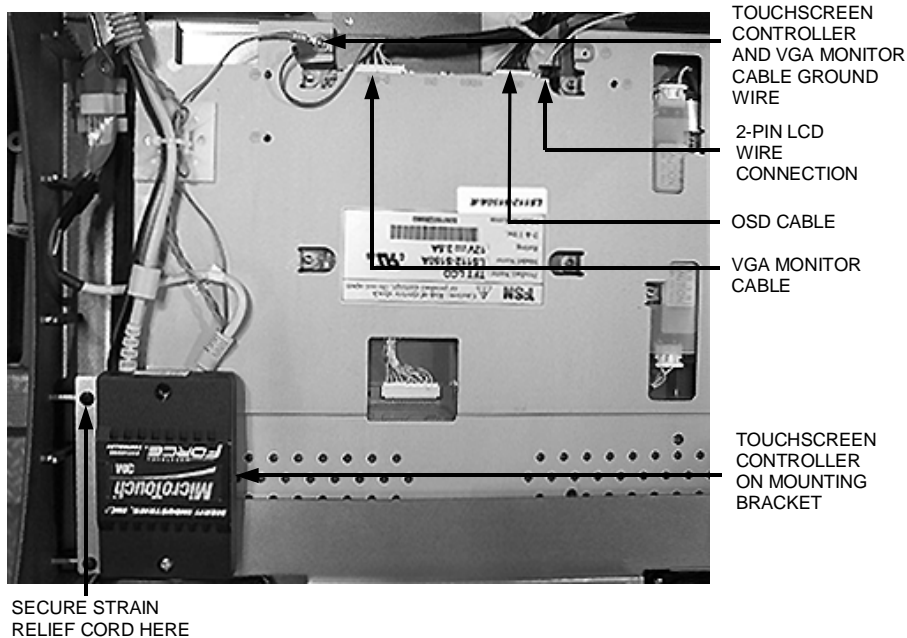

FIGURE 3 – FORESEESONS MONITOR IN FORCE COUNTERTOP GAME
8. Remove the touchscreen controller ground wire. It will be located below the hard drive if the controller is secured to the hard drive mounting plate. If the controller is mounted to the LCD mounting bracket, it will be located on the reverse side of the monitor. Refer to Figures 3 and 4.
19. **FORCE games only:** Use the supplied screw and kepnut to mount the controller to the LCD mounting bracket which contains the lock assembly. Use the screw hole on the bracket that is closer to the edge of the bezel for mounting. See Figure 3.
22. Fasten the strain relief cord under the LCD mounting bracket screw designated in Figure 3.
4. Carefully remove the tie wrap(s) around the VGA monitor cable, then disconnect the cable from the monitor and remove the ground wire (a second ground wire may also be secured in the same location). See Figure 3.
5. Disconnect the OSD cable from the monitor and remove it from the twist clamps on the hinges. Then remove the OSD board from the Velcro attached to either the hinge or the back of the monitor and set it aside. See Figures 3 and 4.
6. Disconnect the 2-pin LCD connector from the monitor. See Figure 3.
NOTE: The ground wire will be located below the hard drive if the touchscreen controller is secured to the hard drive mounting plate. If the touchscreen controller is mounted to the LCD mounting bracket, the ground wire will be located on the reverse side of the monitor. See Figures 3 and 4.
18. Use the supplied screw and kepnut to mount the controller to the LCD mounting bracket which contains the lock assembly. Use the screw hole on the bracket that is closer to the edge of the bezel for mounting. See Figure 3.
21. Use the supplied adhesive tie-downs, tie wraps and/or the wire clamps in the game to secure the touchscreen controller wires. See Figure 3.
22. Fasten the strain relief cord to the remaining screw location on the LCD mounting bracket. See Figure 3.
23. Connect the 2-pin LCD wire connection to the monitor. If your existing cable is not compatible with the new monitor, use the supplied cable. See Figure 3.
25. Connect the OSD cable to the monitor (see Figure 3) and secure it with the twist clamps on the hinges. If your existing cable is not compatible with the new monitor, use the supplied cable.
26. Connect the VGA monitor cable to the monitor, then secure the cable in place with adhesive tie-downs and tie wraps. See Figure 3. If your existing cable is not compatible with the new monitor, use the supplied cable.
27. Use an adhesive tie-down and tie wrap to secure the touchscreen controller wires, then secure the touchscreen controller and VGA monitor cable ground wires to the reverse side of the monitor with the supplied screw(s) and washer(s). See Figure 3.